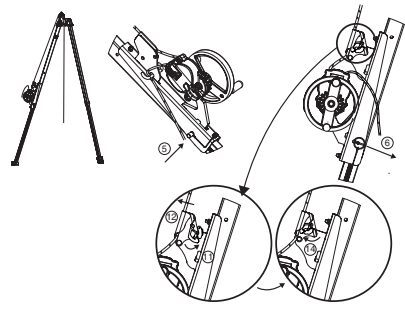

Fig. 9
**IMPORTANT:** Please pay attention to the assembly direction: the halyard blocker must be directed toward the top of the tracpode tripod (Fig. 9).
5. Insert the Derope™ UP R console locking pin. This locking pin fulfils two functions: locking the foot of the tracpode tripod and docking the Derope™ UP R console onto this leg (Fig. 9, 5).
6. Lock-off the docking pin with the split-pin (Fig. 9, 6).
11. Open the halyard clamp in the console (Fig. 9, 11).
12. Insert the halyard coming out of the Derope™ device into the halyard clamp on the console (Fig. 9, 12).
14. Close the halyard clamp in the console (Fig. 9, 14).